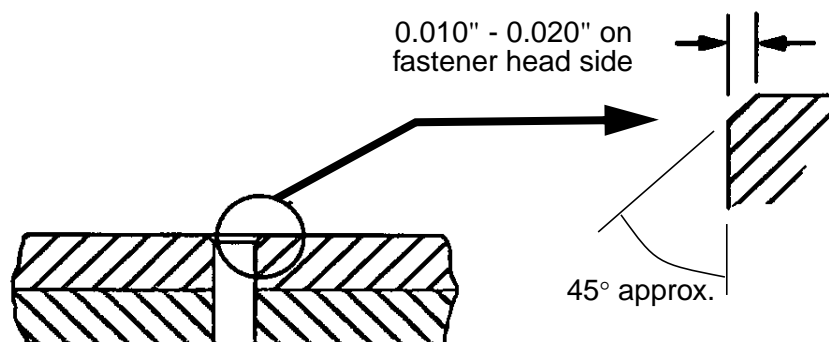

Figure 3 - Edge Relief (Edge Break) for Protruding Head Fasteners
Step 4. For protruding head fasteners, manually break the edge of the hole 0.010" - 0.020" on the side that the fastener head will seat as shown in Figure 3 according to PPS 27.05.
Step 8. For protruding head fasteners, manually break the edge of the hole 0.010" - 0.020" on the side on which the fastener head will seat as shown in Figure 3 according to PPS 27.05.